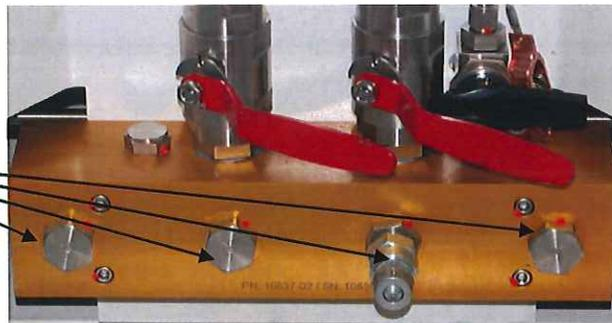

Figure 7: Container Fill Line
7. Connect the station's fill line to the container's fill line. Refer to Figure 7.
Note: The port used for unloading may be the same as the containers fill port as shown in Figure 7.